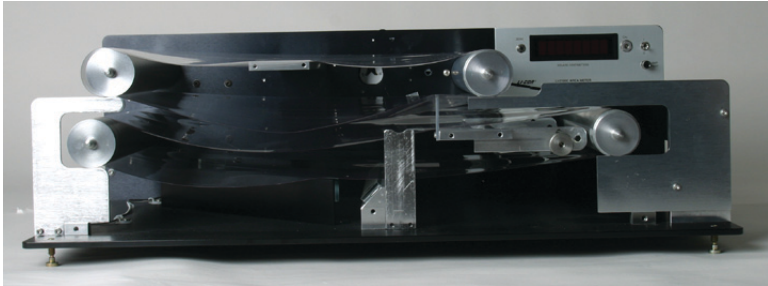

Figure 9. Upper belt rocking idler and lower belt idler removed. To remove the belts, draw them outward.
- Slide the belts outward to remove them (Figure 9).